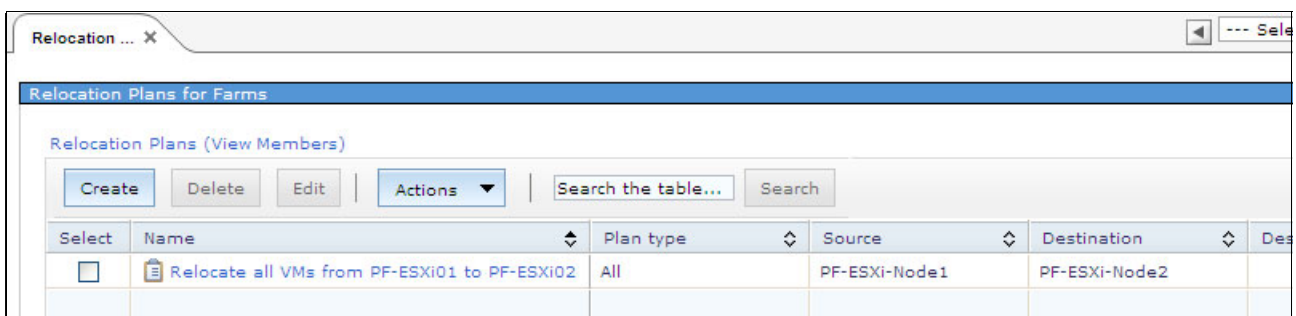

Figure 11-38 Relocation Plans for Farms window
- In the IBM Flex System Manager web interface navigation area, expand **Availability** and click **Relocation Plans for Farms**, as shown in Figure 11-38. In this window, you can view, run, and manage all relocation plans for farms.